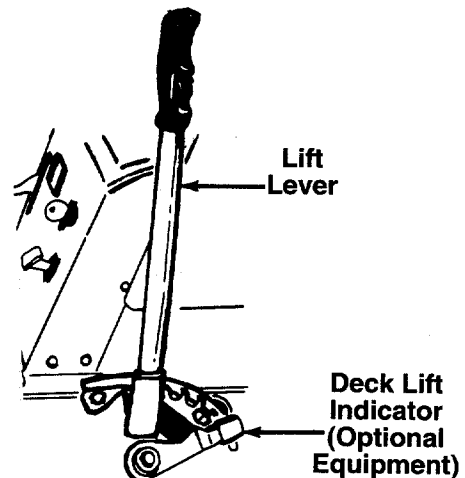

FIGURE 11.
**NOTE:** The lift lever **must** be in the disengaged position when starting the engine, when shifting into reverse and if the operator leaves the seat. See figure 11.
If so equipped, the deck lift indicator marks the position being used for the lift lever. Select the lift lever position desired, press the indicator lever outward, move it to the position immediately below the lift lever and release the indicator lever. See figure 11.
2. Place the lift lever in the DISENGAGED position. See figure 11.